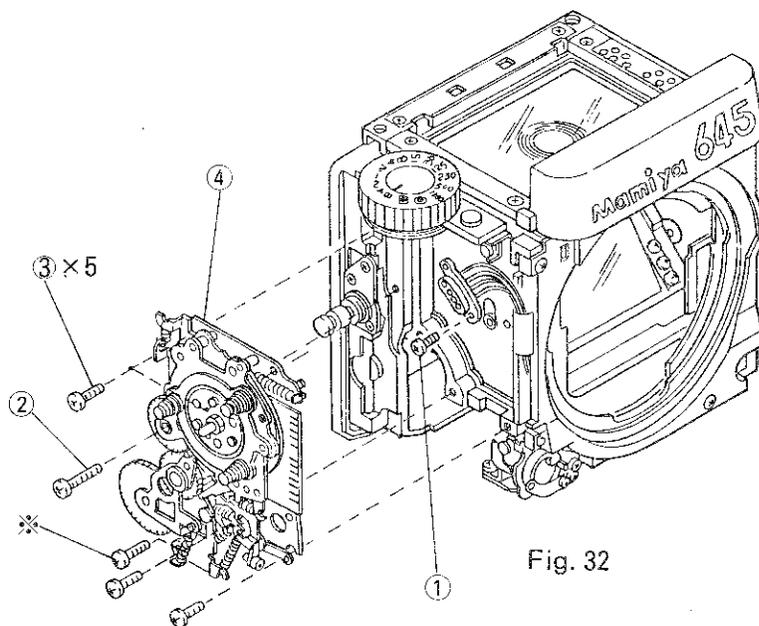

Fig. 32
2. Disassemble the assembly unit in the numerical order above. (Fig. 32)